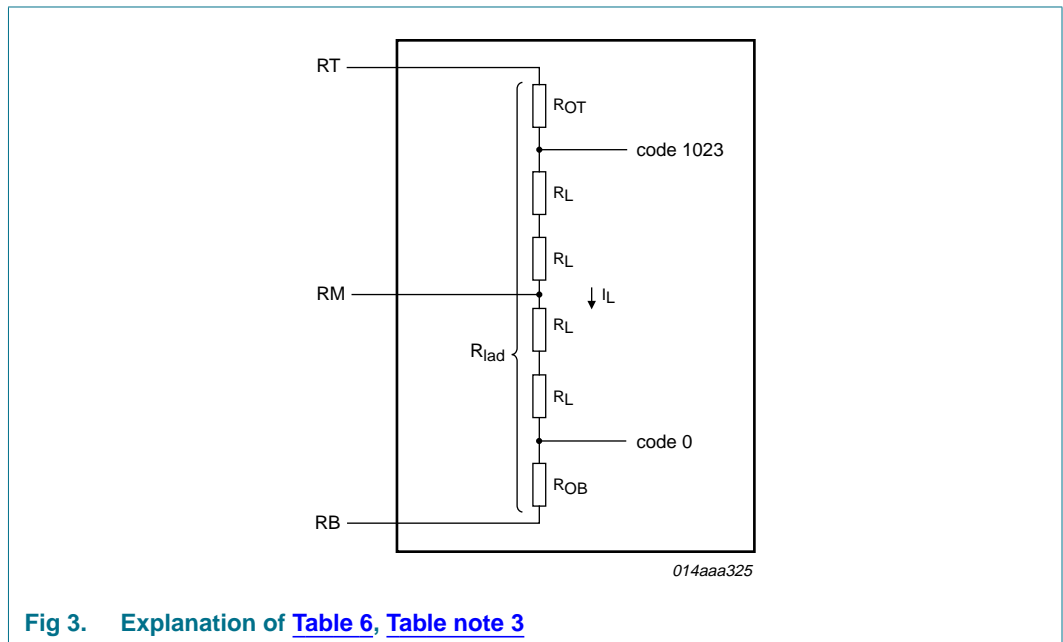

Fig 3. Explanation of Table 6, Table note 3
- [3] In order to ensure the optimum linearity performance of such converter architecture the lower and upper extremities of the converter reference resistor ladder (corresponding to output codes 0 and 1023 respectively) are connected to pins RB and RT via offset resistors  $R_{OB}$  and  $R_{OT}$  as shown in Figure 3.